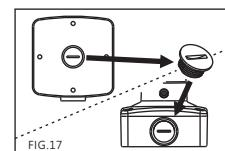

FIG.17
1. Loosen the threaded plug at the bottom of the junction box and secure it to the lateral hole (FIG.17).
1. 轉鬆取下接線盒底座的孔塞，再將其鎖緊在側孔上 (FIG.17)。